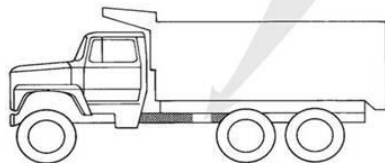

Figure 1
The two (2) Truck Frame Labels, which measure approximately 4" x 8", are to be placed on the outside of the vehicle frame rail. These labels are to be easily seen by anyone who might go under the truck or near the FR PTO. One label is to be placed on each side of the vehicle. See figure 1.